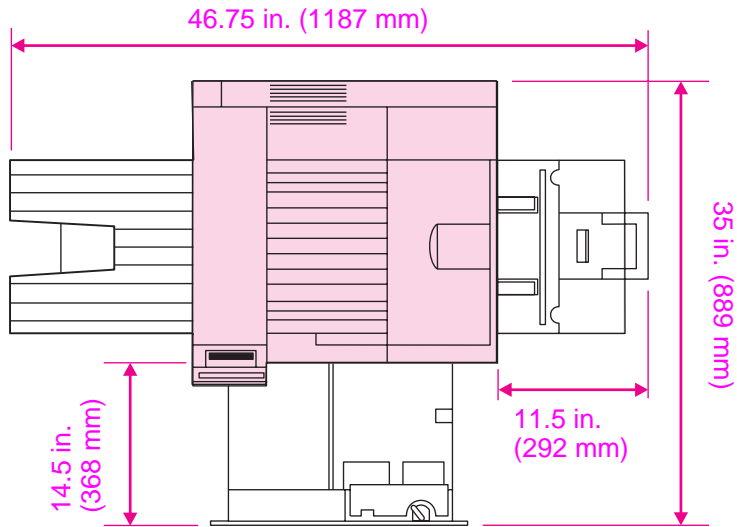

Figure 2-1 Printer Space Requirements (Top view)
- Install the printer with enough space around the printer for proper access and ventilation (see figure 2-1 on page 47).